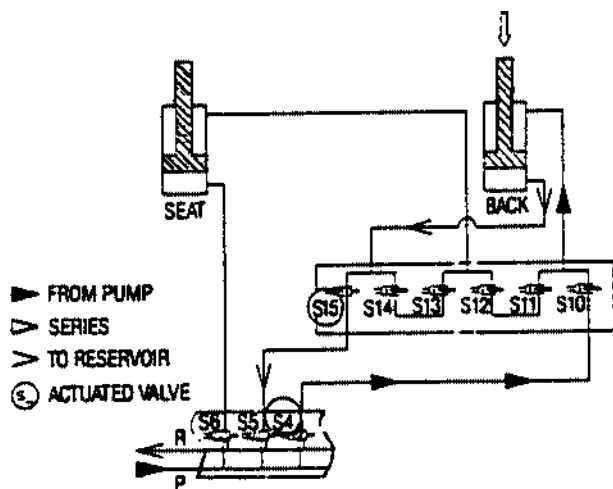

Figure 6-16. Back Down Schematic
• **Back Up/Down** (Figures 6-16 and 6-17)